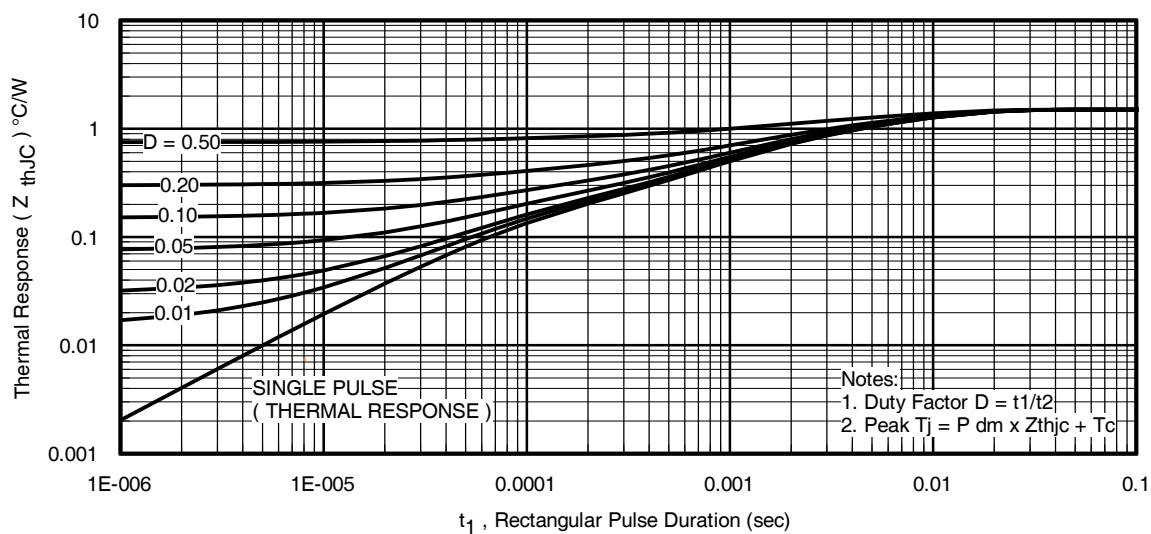
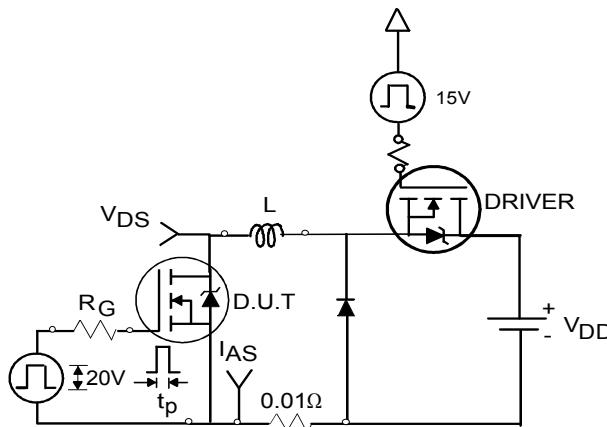

Fig 11. Maximum Effective Transient Thermal Impedance, Junction-to-Case
Fig 12a. Unclamped Inductive Test Circuit
- ① Repetitive rating; pulse width limited by max. junction temperature. (See fig. 11)
- ② Limited by $T_{J\max}$, starting $T_J = 25^\circ\text{C}$, $L = 8.1\text{mH}$, $R_G = 50\Omega$, $I_{AS} = 5.6\text{A}$, $V_{GS} = 10\text{V}$. Part not recommended for use above this value.
- ③ Pulse width $\leq 1.0\text{ms}$; duty cycle $\leq 2\%$.
- ④ $C_{oss\ eff.}$ is a fixed capacitance that gives the same charging time as C_{oss} while V_{DS} is rising from 0 to 80% V_{DSS}
- ⑤ Limited by $T_{J\max}$, see Fig.12a, 12b, 15, 16 for typical repetitive avalanche performance.
- ⑥ This value determined from sample failure population. starting $T_J = 25^\circ\text{C}$, $L = 8.1\text{mH}$, $R_G = 50\Omega$, $I_{AS} = 5.6\text{A}$, $V_{GS} = 10\text{V}$.
- ⑦ When mounted on 1" square PCB (FR-4 or G-10 Material). For recommended footprint and soldering techniques refer to application note #AN-994
- ⑧ R_θ is measured at T_J approximately 90°C
3. Equation below based on circuit and waveforms shown in Figures 12a, 12b.